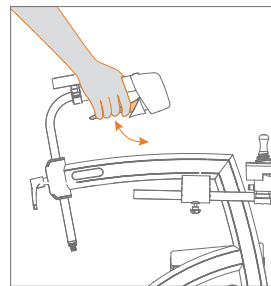

Figure 68: Release the parking brake.
- d. To remove the walker from the parking position, squeeze the brake handles again and release them (**Figure 68**). The rollator is no longer in the parking position.